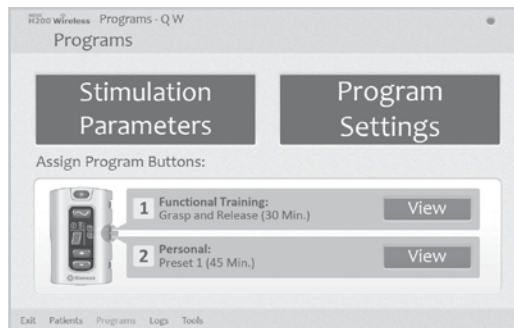
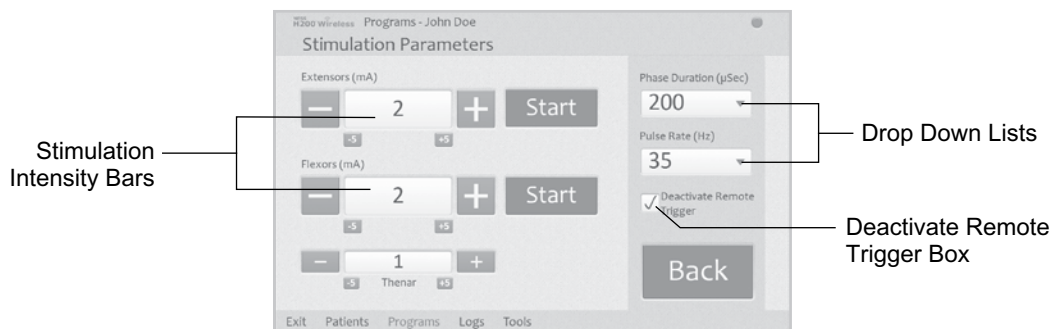

Figure 8-15: Program Menu Window
Figure 8-16: Stimulation Parameters Window
2. From the Programs menu (See Figure 8-15), press Stim. Parameters to open the Stimulation Parameters window. If the patient record is new, the Stim Parameters window will open automatically. See Figure 8-16.